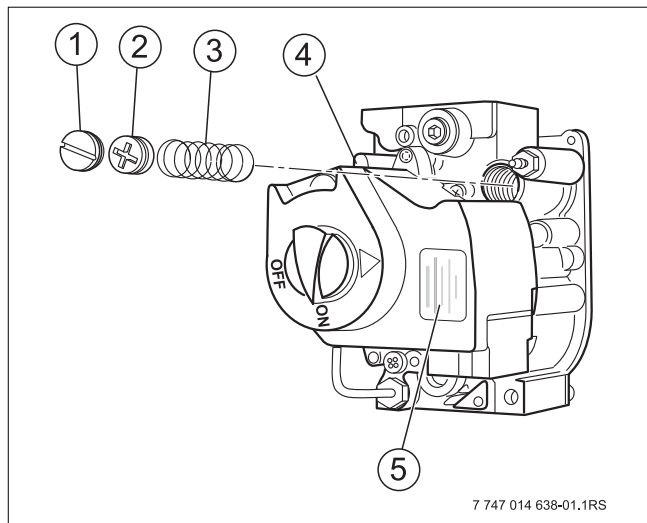

Fig. 3 Gas valve
- ▶ Apply yellow label (→ Fig. 3, [5]) from the Honeywell LP conversion kit in a readily visible location.